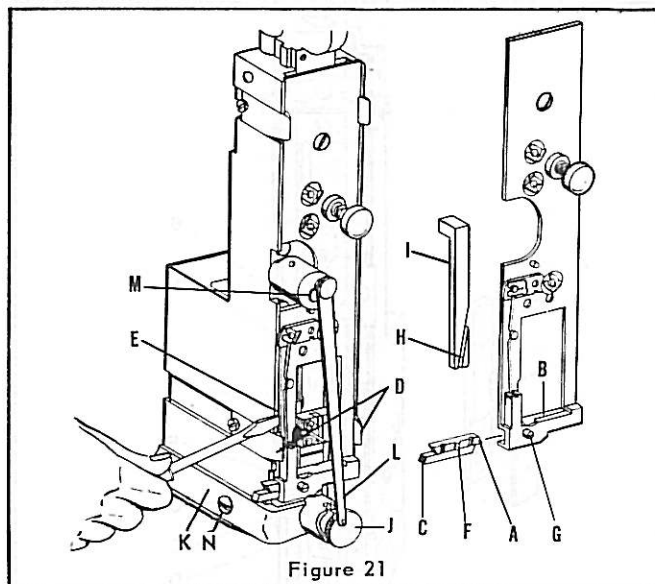

Figure 21
J. Wire Cutters (Figure 21)
3. Lift end of spring (Index L, Figure 21) out of bottom swivel.
5. Slip the swivel operating cam (Index M, Figure 21) forward and off the stud.
9. Remove the cutter operating slide (Index I, Figure 21).
M. Swivel (Figure 21)